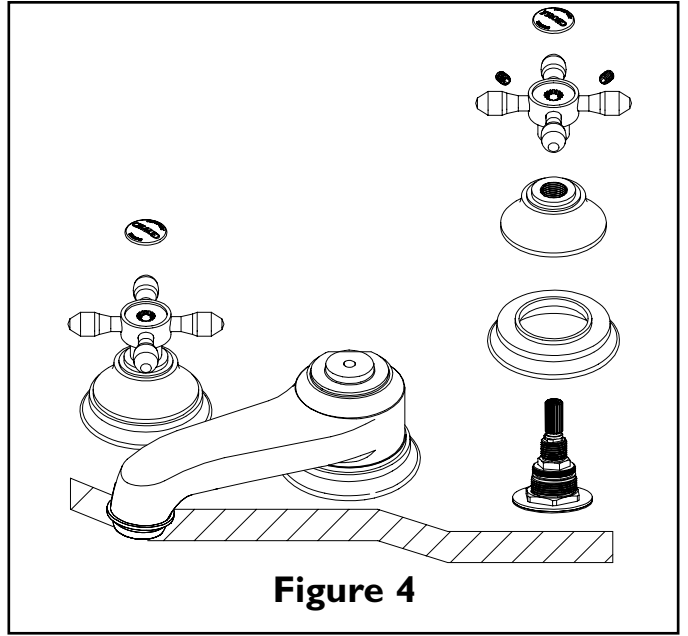

Figure 4
7. Attach escutcheon/bonnet and handles. Any adjustments for rotational alignment must be made to the valve body - not to the cartridge. (Note: Allow minimum spacing between handles and escutcheon/bonnet to prevent damage to the surface finish.) Secure handles into place with setscrew. See Fig. 4